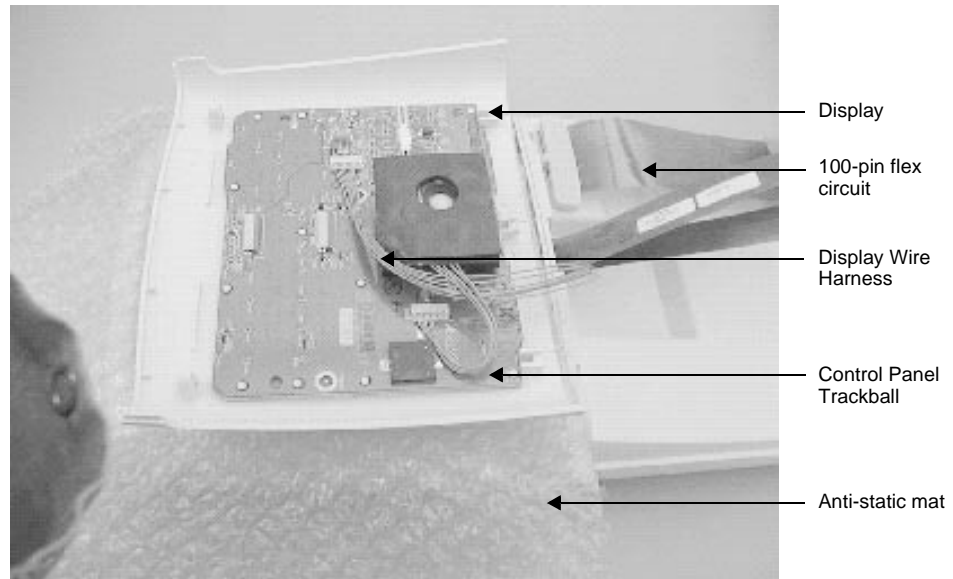

Figure 7.5 Placing the Control Panel Subassembly onto the Display
- 5 Replace the 100-pin flex circuit on the bottom module (Figure 7.5).